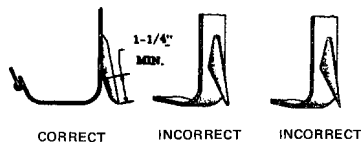

FIGURE 19. Correct and Incorrect Filing of Gaff Point
- c. If it is necessary to remove any of the outside of the gaff, file from the heel to the point down the sides to retain the original shape. See Figure 19.